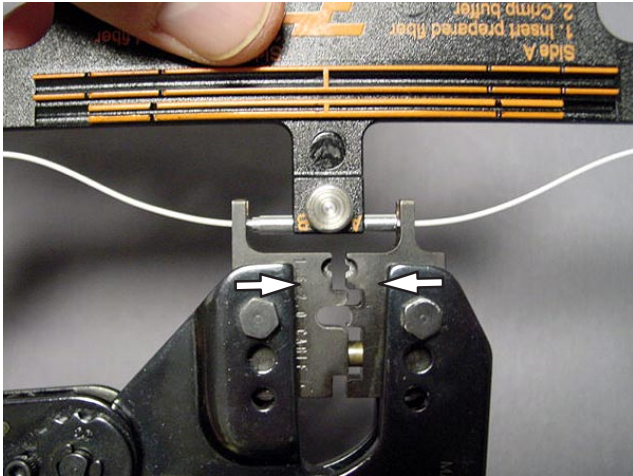

Figure 22
10. Insert the splice into the die set, close the crimp tool handles until the ratchet releases. Slowly open the tool and remove the splice. See Figure 22.